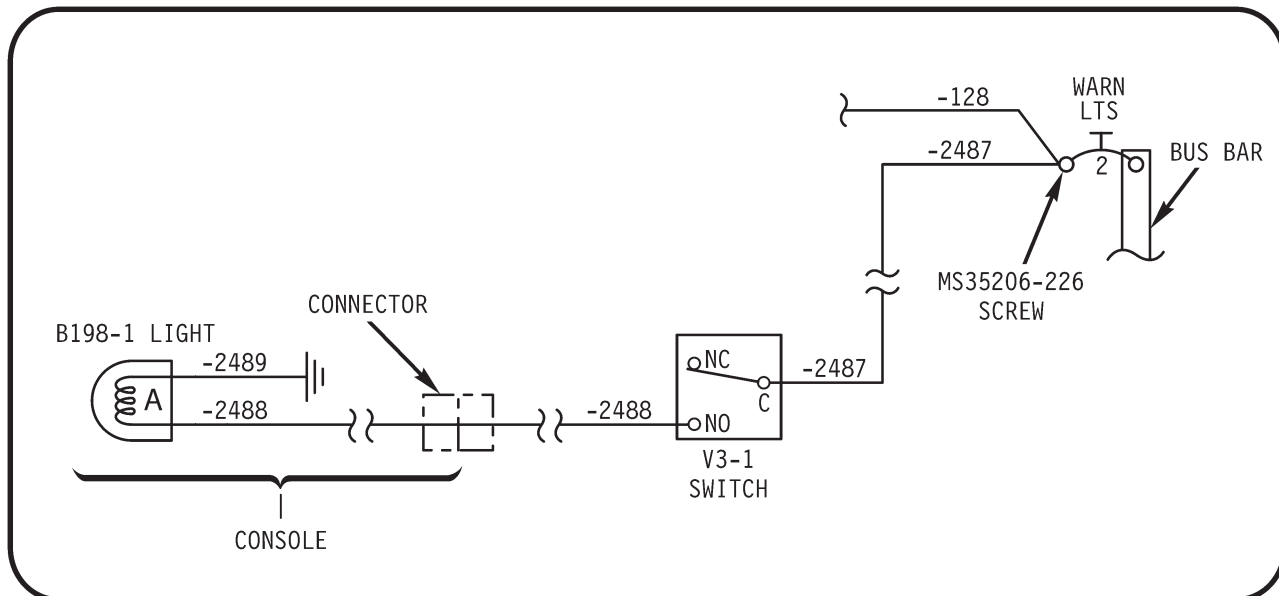

FIGURE 4
4. Refer to Figure 4. Disconnect D828-1 harness at connectors and set aside console portion.